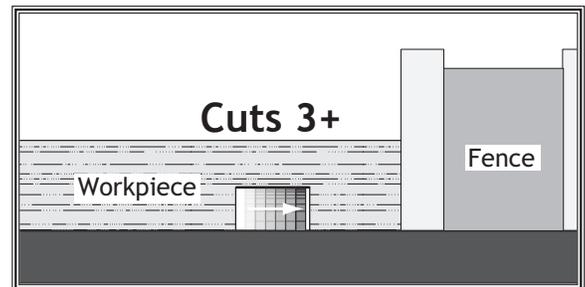

Figure 66. Additional single-blade dado cuts.
8. Make additional cuts (see Figure 66) in center of dado to clear out necessary material. Dado is complete when channel is completely cleared out.